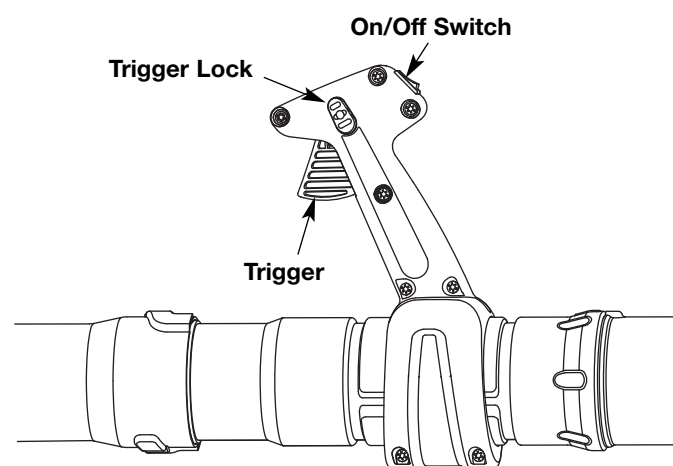

Fig. 16
NOTE: The unit should be started in idle. Do not squeeze the trigger while starting (Fig. 16).
The unit should be started in idle. Do not squeeze the trigger while starting (Fig. 16).
2. Press the On/Off Stop Control switch in the OFF (O) position and hold until the engine comes to a complete stop (Fig. 16).
- Use the trigger lock (Fig. 16) to keep the trigger depressed while operating to make continuous operation easier.
TRIGGER LOCK (Fig. 16)
1. Squeeze and hold the trigger (Fig. 16).
2. Press and hold the trigger lock (Fig. 16).